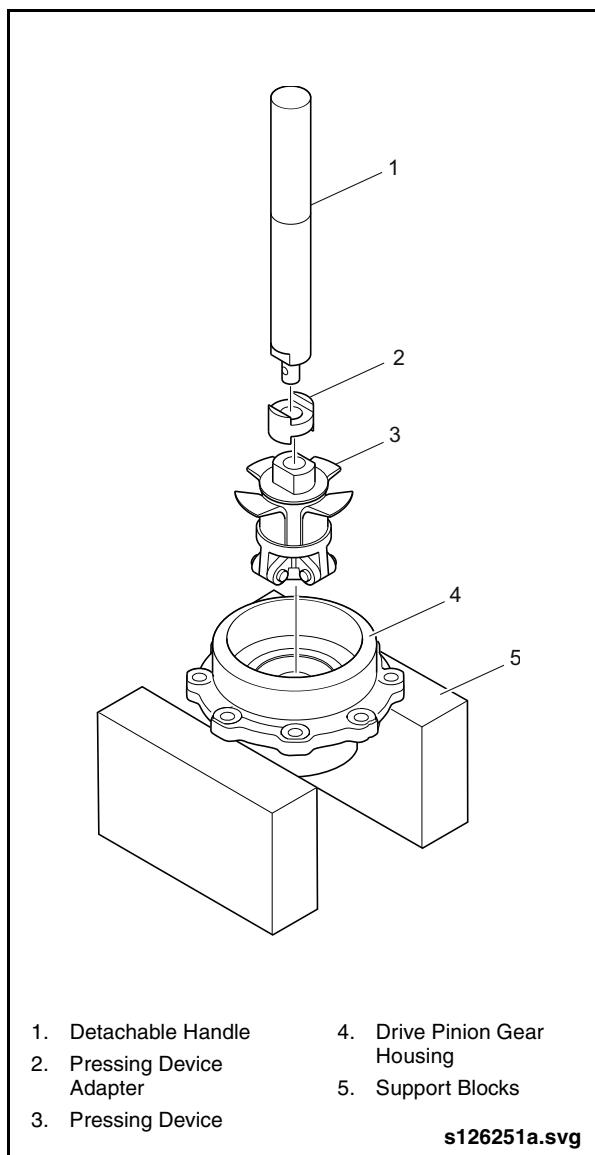

Fig. 2-94: Removing Inner Bearing Outer Race
1. Reposition the drive pinion gear housing on support blocks with the input end facing up. See "Fig. 2-94: Removing Inner Bearing Outer Race" on page 77.